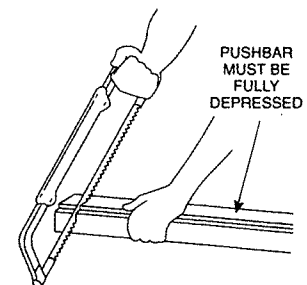

Figure 4
- C. Fully depress bar and cut off square on mark. (See Figure 4).